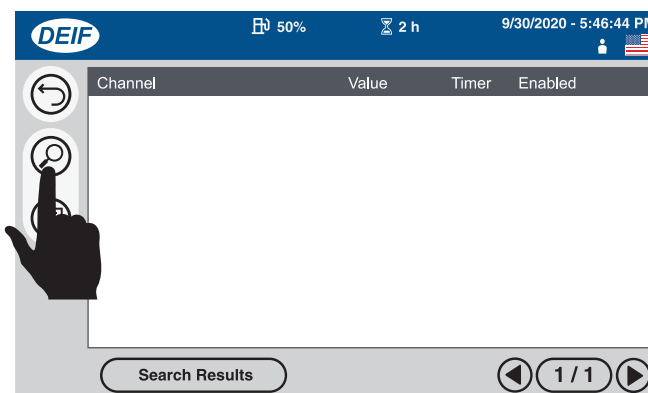

Figure 98. Search Results Screen
- Verify that the **Search Results screen** is displayed (Figure 98), then press the **Search button**.